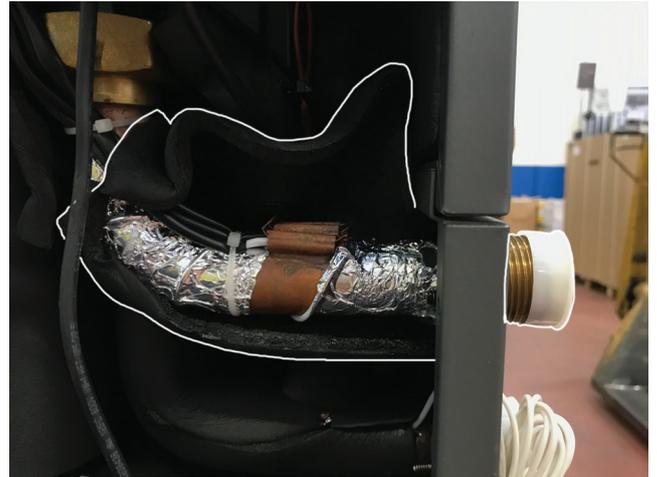

Figure 5-18 - Thermal insulation removal and access the sensors
- 4.- Remove the thermal insulation from supply pipe (Figure 5-18) to access the sensors;